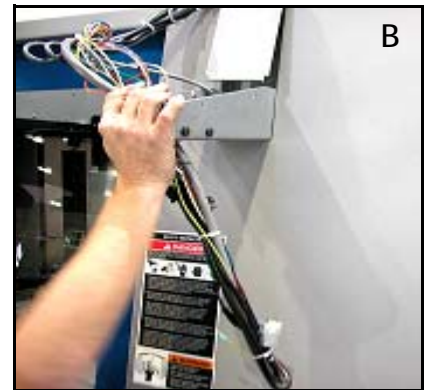

Figure 3-11: Pendant Installation
- a. Install lower mount using screws from the box. (See picture A of Figure 3-11.)
- b. Remove the cover from the upper control mount and install it using screws from the box. (See picture B of Figure 3-11.)